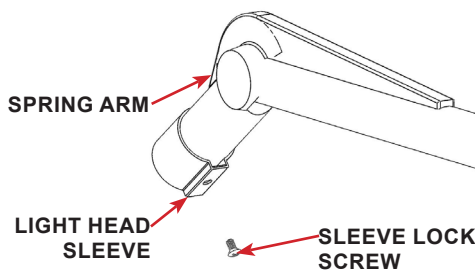

FIGURE 2.38 - Light Head Sleeve
STEP 1: Remove the phillips head screw and remove the lock washer. Refer to FIGURE 2.38